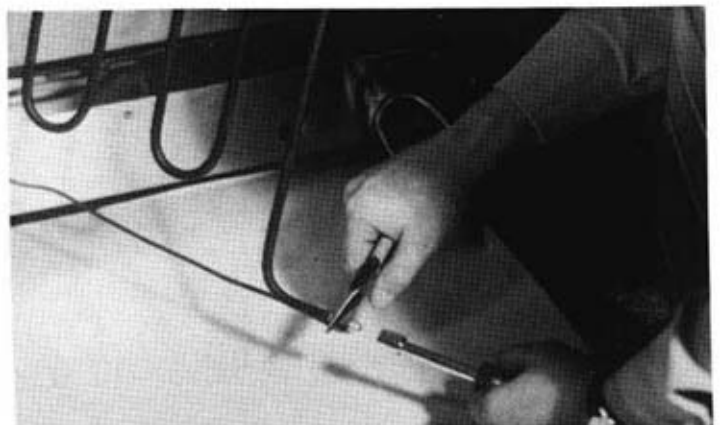

FIG. 21
4. Remove the six (6) hex head screws and washers securing galvanized panel to bottom of cabinet and save for reuse.
7. Remove the 16 nuts securing the three (3) heater shields, insulation and bracket in place. Remove defective heater. Save nuts, heater shields, insulation and bracket for reuse.
8. Utilizing care, hold heater end behind wire terminal and remove hex nut (both heater ends) (See Figure 21).